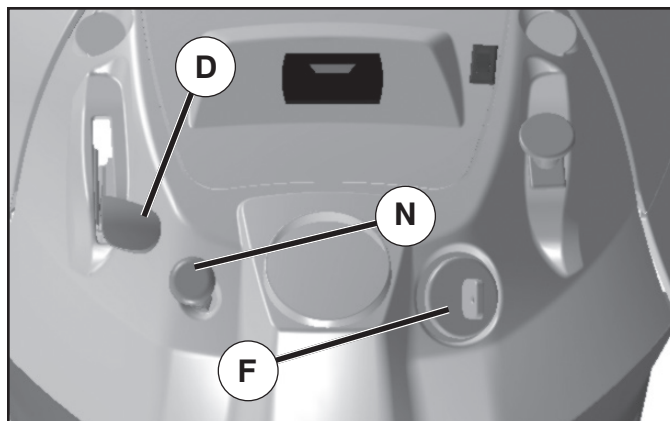

Fig. 19
TO USE THROTTLE CONTROL (D) (See Fig. 19)
TO USE CHOKE CONTROL (N) (See Fig. 19)